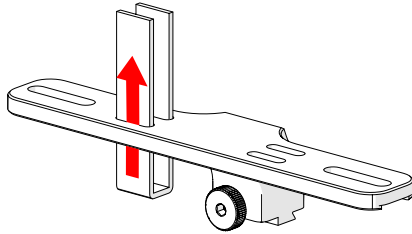

Fig. 192 - Insert velcro straps
1. Slide the velcro strap through the bracket's holes (*Fig. 192*).